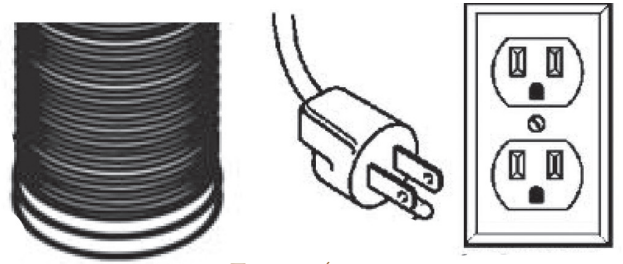

Figure 4
Make your electrical and ducting connections. Try and minimize the use of elbows. More elbows and longer runs create higher static pressure. The hood comes with a grounded three prong plug that can either be direct wire or plugged into a 20amp. circuit. (Figure 4)
- 5 Install the transition piece securing it with screws provided. (Figure 4)